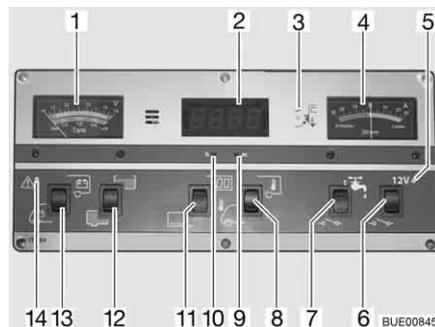

Fig. 157 Panel IT 994
With the V/tank gauge (Fig. 157,1), note the top scale. The gauge automatically lights up as soon as a switch is pressed.
- Press the lower part of the rocker switch (Fig. 157,13): The battery voltage of the starter battery is displayed.
- Press the upper part of the rocker switch (Fig. 157,13): The battery voltage of the living area battery is displayed.
The V/tank gauge is for the indication of the quantity of water or waste water. With the V/tank gauge (Fig. 157,1), use the bottom scale. The gauge automatically lights up as soon as a switch is pressed.
- Press the upper part of the rocker switch (Fig. 157,12): The volume of water is displayed.
- Press the lower part of the rocker switch (Fig. 157,12): The volume of waste water is displayed.
The red ALARM warning light (Fig. 157,14) flashes as soon as the voltage of the living area battery falls below 11 V (measured under operation) and there is a risk of a total discharge.
- Press the upper part of the rocker switch (Fig. 157,11): Digital clock display is switched on. Temperature display is ready to operate.
- Press the lower part of the rocker switch (Fig. 157,11): Digital clock display and temperature display are switched off.
- Press a thin device, such as a biro, into the opening for the hour display (Fig. 157,10) until the correct hours are displayed.
- Press a thin device, such as a biro, into the opening for the minute display (Fig. 157,9) until the correct minutes are displayed.
- Press the upper part of the rocker switch (Fig. 157,8): The internal temperature is displayed.
- Press the lower part of the rocker switch (Fig. 157,8): The external temperature is displayed.
The battery current actually flowing is permanently displayed on the current gauge (Fig. 157,4). The gauge automatically lights up as soon as a switch is pressed.
The 12 V main switch (Fig. 157,6) switches the panel and the 12 V power supply of the living area on and off.
Switching on: ■ Press the upper part of the rocker switch (Fig. 157,6): The 12 V living area power supply is switched on. The indicator lamp (Fig. 157,5) lights up green.
Switching off: ■ Press the lower part of the rocker switch (Fig. 157,6): The 12 V living area power supply is switched off. The indicator lamp (Fig. 157,5) goes out.
The 12 V indicator lamp (Fig. 157,5) illuminates whenever the 12 V main switch (Fig. 157,6) is switched on.
The yellow 230 V indicator lamp (Fig. 157,3) illuminates whenever line voltage is available at the transformer/rectifier input.
Switching on: ■ Press the upper part of the rocker switch (Fig. 157,7): The water supply is ON.
Switching off: ■ Press the lower part of the rocker switch (Fig. 157,7): The water supply is OFF.